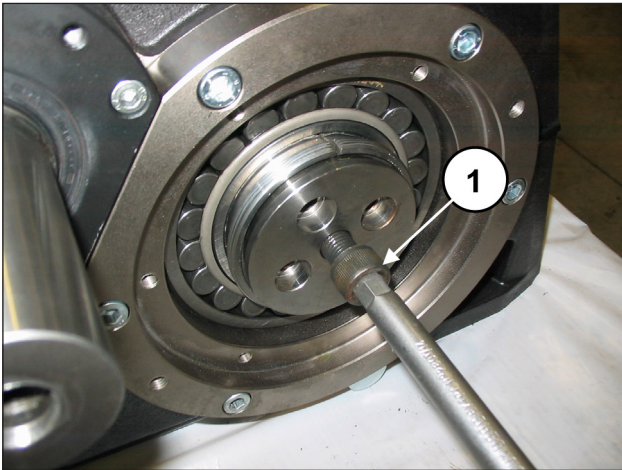

Fig. 80
Apply a sufficiently long (35-40 mm) M16 screw to the M16 hole on the bend shaft and screw it in, until the flange is touching the bush (pos. ①, Fig. 80). Do not tighten the screw.